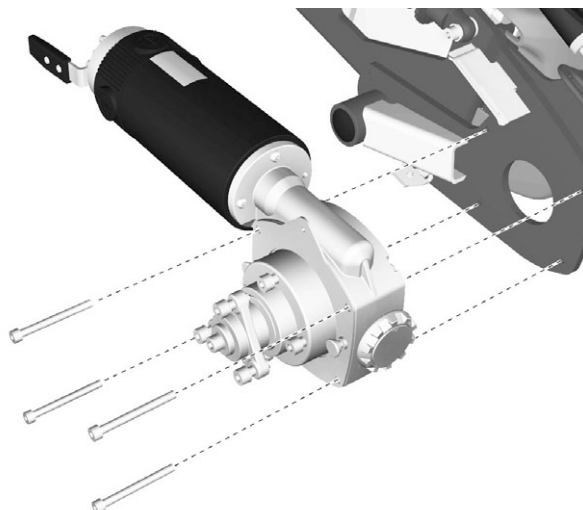

Figure 58. Fitting/removing the Drive motor.
1. Fit the drive motor with the four screws. See fig. 58.